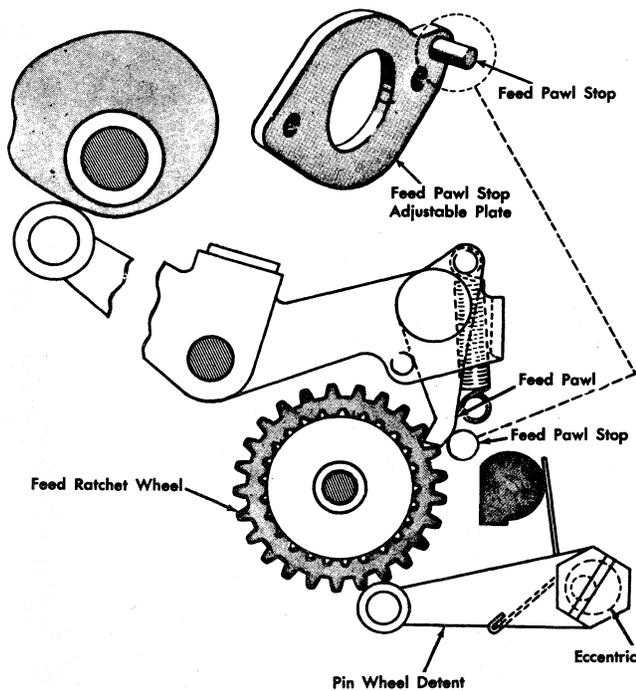

Figure 119. Tape Feed Adjustment
1. Position a tape (punched in good registration) so that holes in tape are concentric with reader pins. Tape may be positioned laterally by pin wheel detent eccentric (Figure 119). Tape may be positioned vertically by adjustable tape guide arm and
2. Adjust feed pawl stop plate (Figure 119) so that feed ratchet wheel advances just one full tooth with no overthrow.